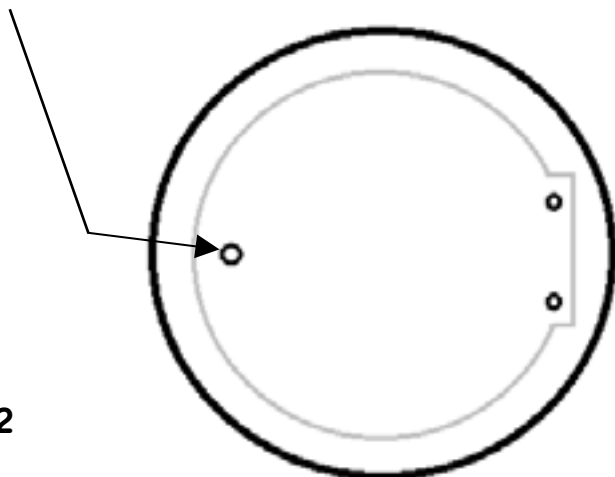

Fig. 2
- Remove the fastening screw securing the LED plate, and open the LED plate (see Fig. 2)